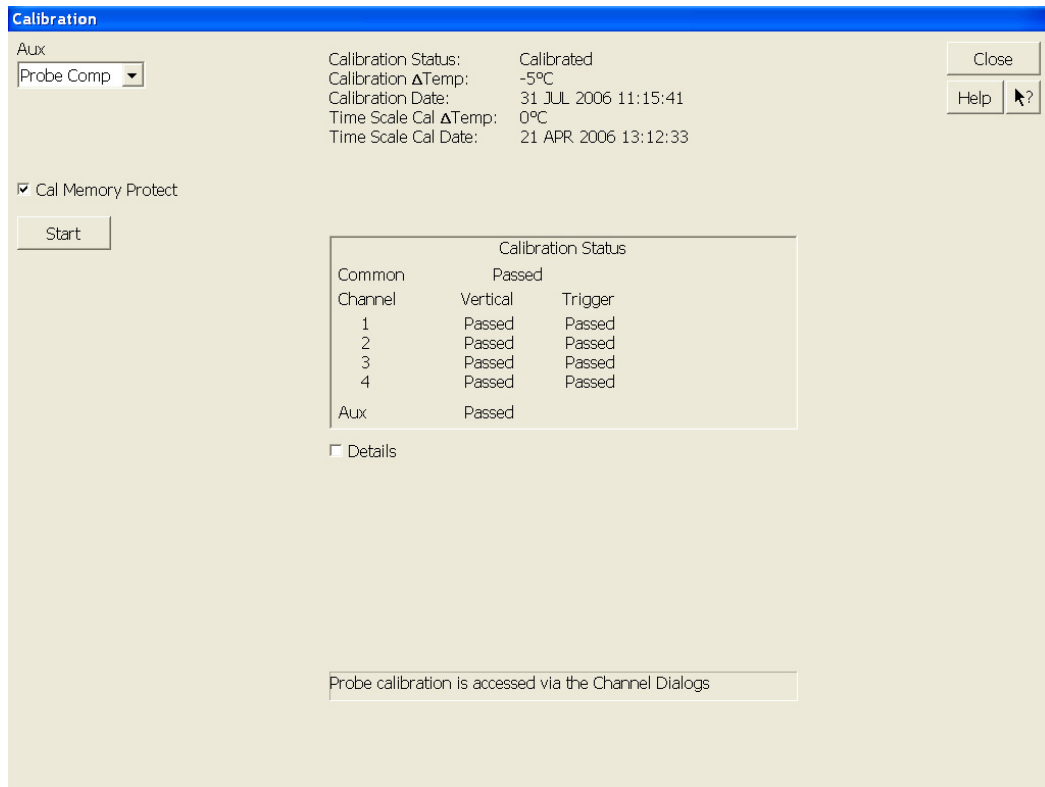

Figure 59 Oscilloscope Calibration Window
- 4 Referring to Figure 59 below, perform the following steps to start the calibration: